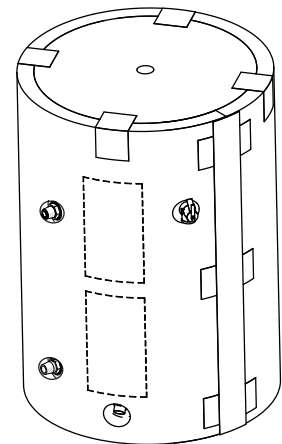

Figure 5
5. Secure top insulation to cover by using 4 tape strips 6" long as shown in Figure 5.